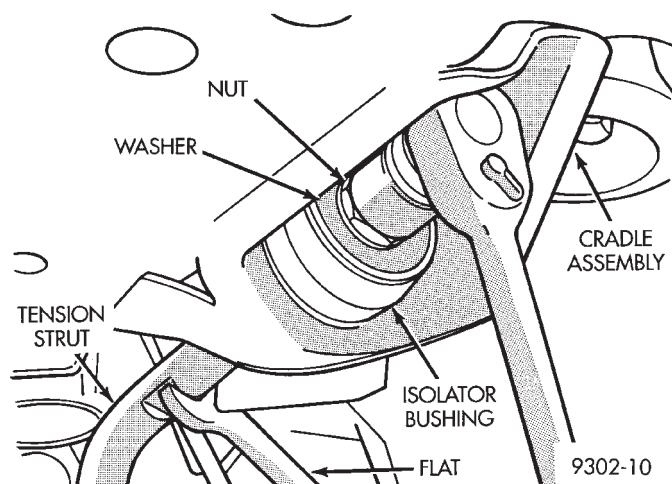

Fig. 30 Tension Strut To Cradle Mounting
(5) Remove tension strut to cradle attaching nut and washer from end of tension strut (Fig. 30). When removing tension strut nut, keep strut from turning by holding tension strut at flat using open end wrench (Fig. 30). **Discard tension strut to cradle retaining nut. A NEW tension strut to cradle nut must be used when installing tension strut.**
(3) Install washer on end of tension strut (Fig. 30). Install a **NEW** tension strut to cradle bracket nut, on tension strut (Fig. 30). Tighten the tension strut to cradle bracket retaining nut to a torque of 150 N·m (110 ft. lbs.). When torquing tension strut nut, keep tension strut from turning by holding tension strut at flat using an open end wrench (Fig. 30).